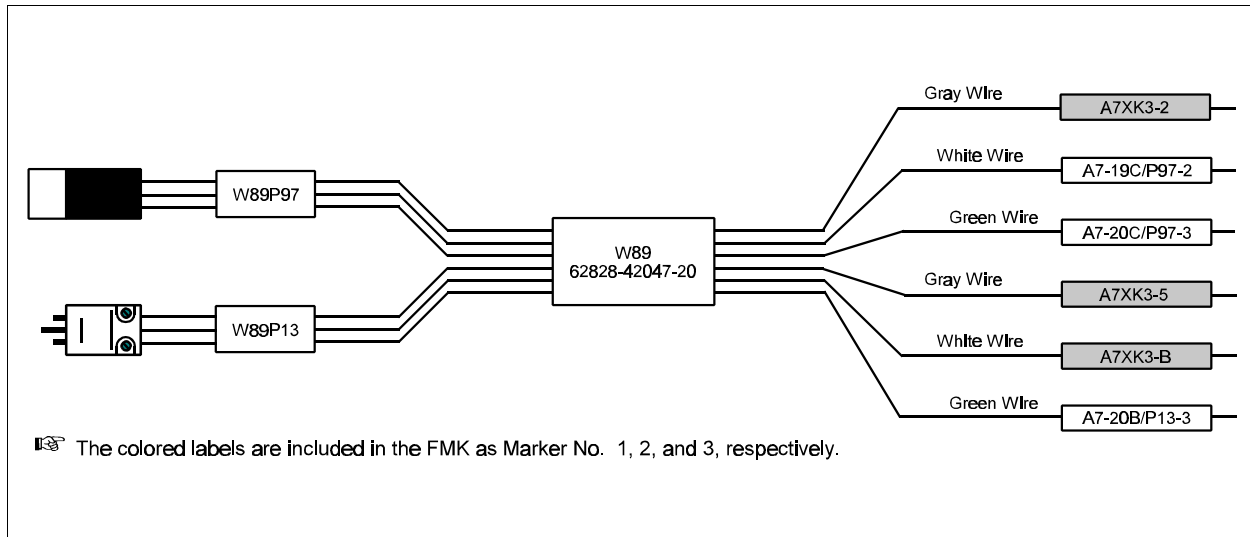

Figure 4 AC Power Cable Relabeling
17. Locate W89 AC power cable (62828-42047-20) in the FMK. The wires in this bundle are only 2-feet long, too short for this modification. Disassemble the two plugs on this wire bundle and replace each wire with a 14-gauge stranded wire approximately 6-feet long. Relabel each wire as illustrated in figure 4.